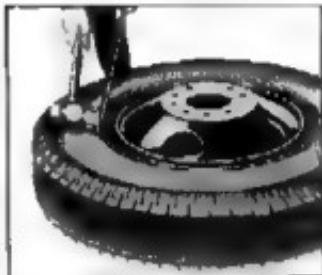
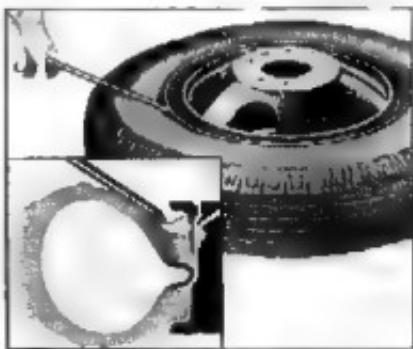

Fig. 68—Sterling Side Ring Removal
Fig. 69—Removing Side Ring
4. Drive the curved end of the tire iron in between the side ring and the entire bead (fig. 68). Then pry down on the opposite end of tire iron to move the tire bead away from the side ring flange (fig. 69). Continue the foregoing operation progressively around the tire until the side ring is removed. In some cases it may be necessary to work around the tire a couple of times.